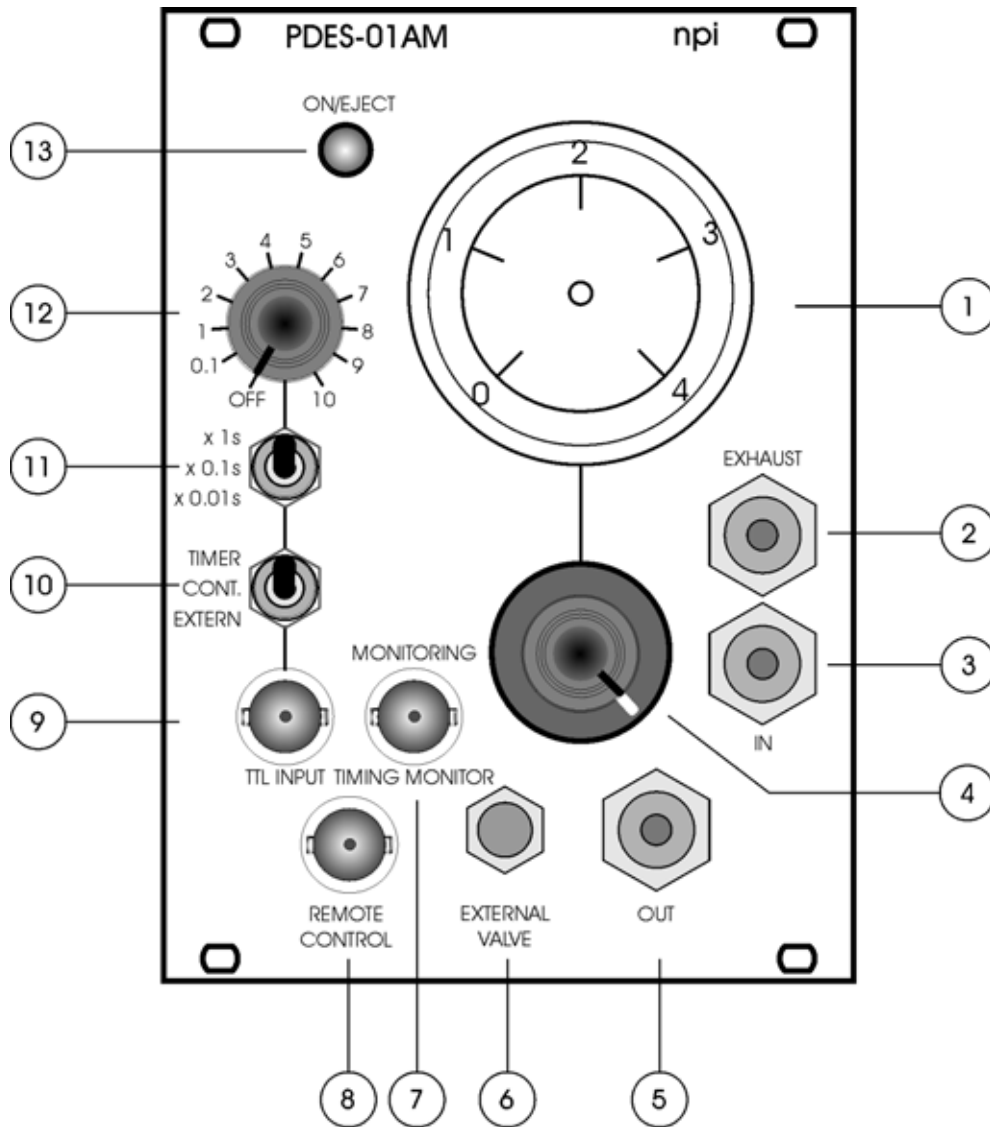
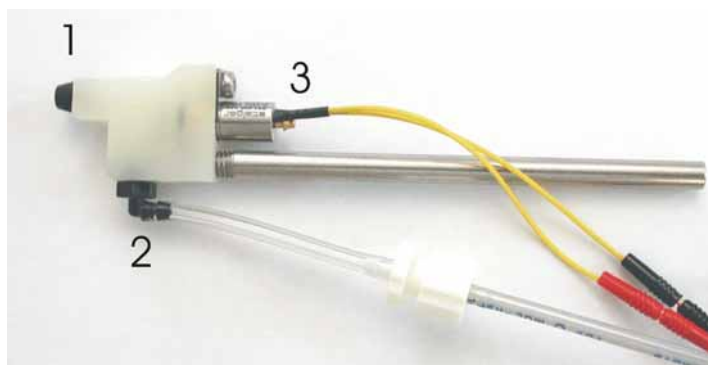

Figure 2: PDES-01AM front panel view (the numbers are related to those in the text below)
Figure 3: *microJECT*
The valve which is controlled by the PDES is located in the micro valve pipette holder, called *microJECT* (see Figure 3). Tube and cable of the *microJECT* are connected at the front panel of the modular PDES system.
- ❑ connect the *microJECT* pipette holder to the two *microJECT* connectors at the front panel (#5 and #6, Figure 2), and connect your ejection pipette to the *microJECT* (#1, Figure 3).
- ❑ Connect a timing unit to the TTL INPUT connector (#9, Figure 2) at the front panel
- connect a pushbutton to the REMOTE CONTROL connector (#8, Figure 2) at the front panel
- ❑ Select the operation mode using the toggle switch (#11, Figure 2) at the front panel.
- In the TIMER position the duration is preset by the timer control (#12, Figure 2) and time base (#11, Figure 2) of the PDES. Application is started with a TTL signal connected to TTL INPUT (#9, Figure 2) or by pressing the pushbutton connected to #8, Figure 2. In position OFF of the timer control for pressure ejection is disabled.